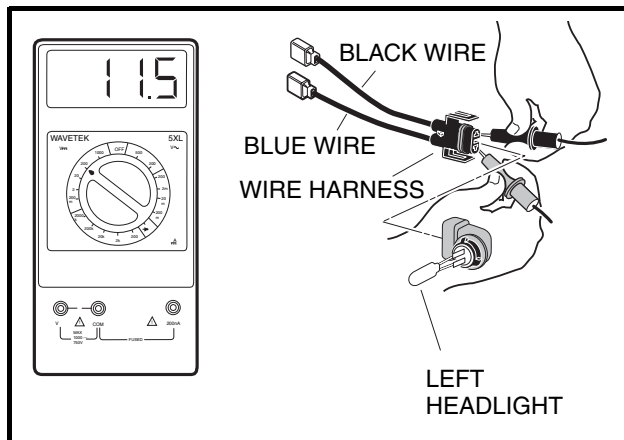

Figure 11-39 Check Voltage to Headlight Socket
3. Remove the wire harness from the headlight (**Figure 11-39, Page 11-37**).